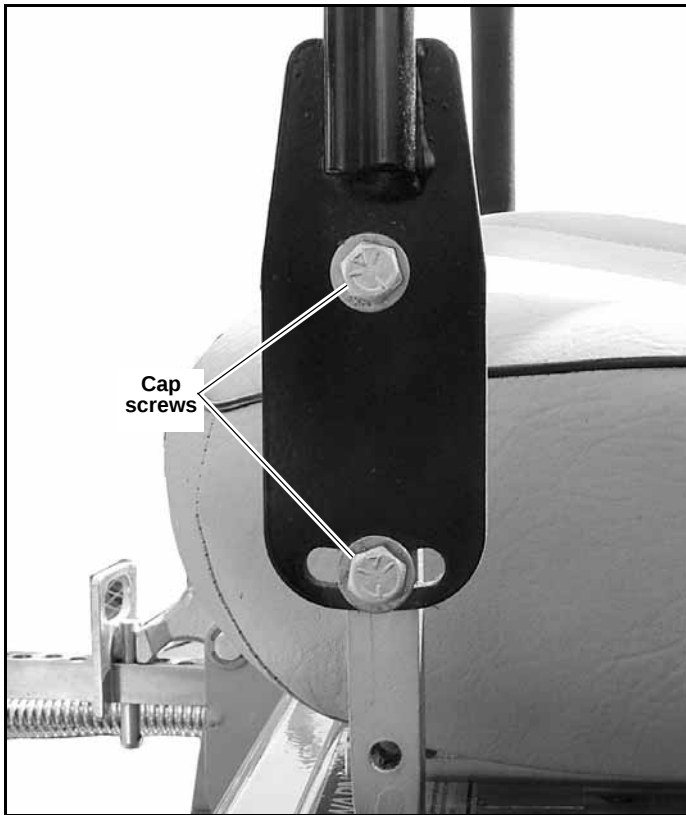

Figure 5-8
1. By loosening the cap screws that attach the upper control lever to the lower lever the upper control lever can be pivoted to fit the operator's personal preference (see Figure 5-8)